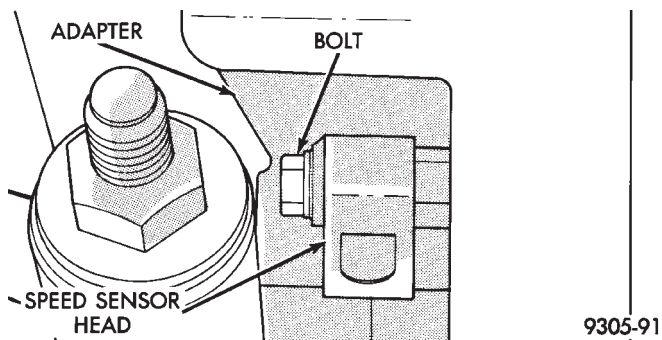
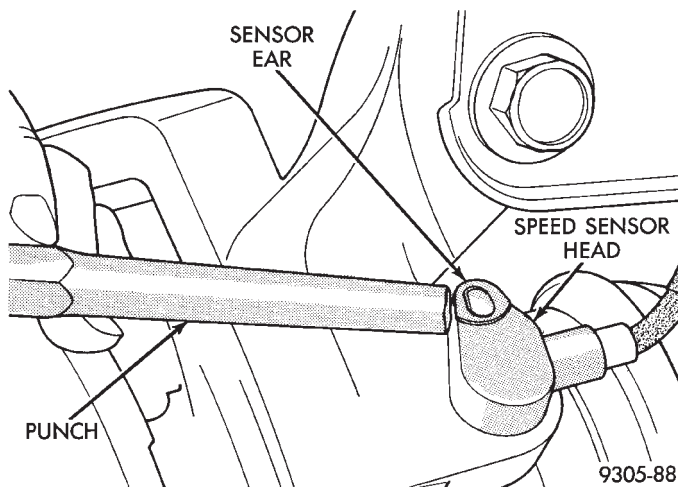

Fig. 35 Speed Sensor Head Attachment To Adapter
Fig. 36 Speed Sensor Head Removal
(6) Remove speed sensor head, attaching bolt from rear adapter (Fig. 35). Then remove rear speed sensor head from adapter. If the sensor has seized, due to corrosion, **DO NOT USE PLIERS ON SENSOR HEAD.** Use a hammer and punch (Fig. 36) to tap edge of sensor ear, rocking sensor side to side until free.